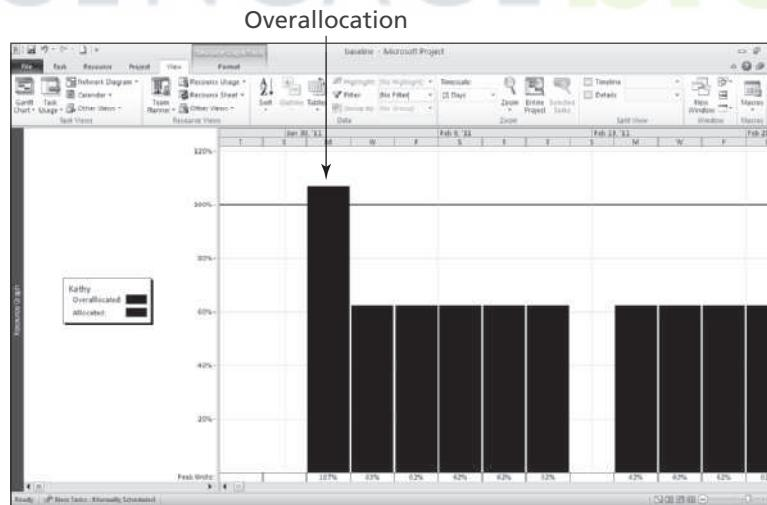

FIGURE A-59 Resource Graph showing an overallocation
2. *View the other resources' histograms.* Click the **left scroll arrow** at the bottom of the resource name pane on the left side of the screen. The resource histogram for the next person appears. View the resource histograms for all four people, and then go back to Kathy's. Click the **Zoom In** button several times until the information is displayed in days. Move the scroll bar until you see the information for the first day of the project, as shown in Figure A-59.